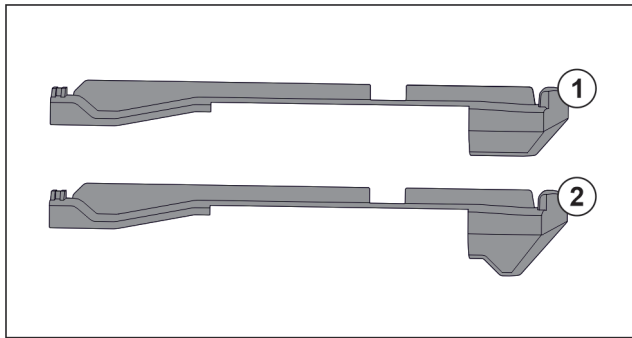

Fig. 122 Comparing attachments
There are two different attachments in the appliance. The attachment above the lowest drawer *Fig. 122 (2)* has a three-cornered edge. All other attachments *Fig. 122 (1)* have a straight edge.
- ▶ Fit attachment *Fig. 122 (2)* with the three-cornered edge above the lowest drawer.
- ▶ Fit attachment *Fig. 122 (1)* with straight edge in all other positions.